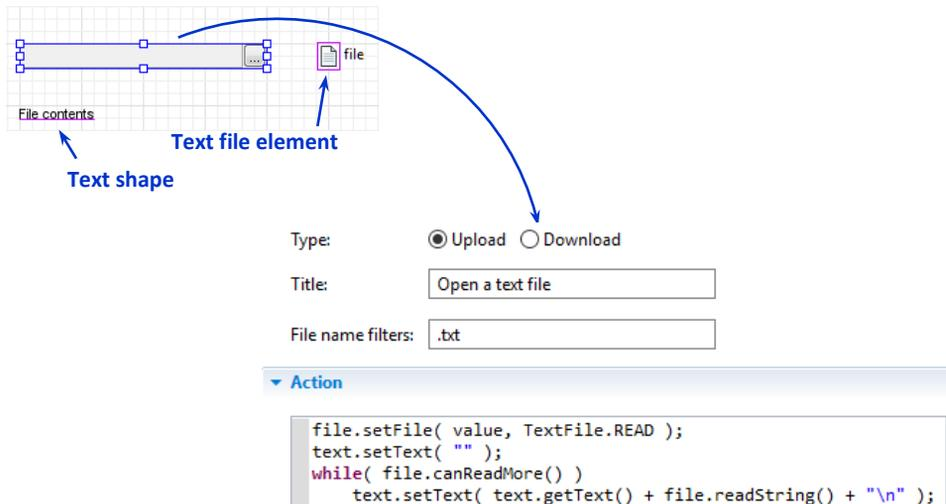

Figure 13.7 File chooser works with the Text file element
- Drag the **File Chooser** from the **Controls** palette to the graphical editor and extend it a bit as shown in Figure 13.7.